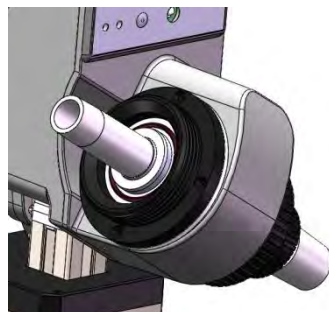

**Fig. 3**
- Rotate the locking device (d) (Fig. 3) by 60° counterclockwise to mount the evaporating tube in place, and rotate the locking device (d) clockwise for locking